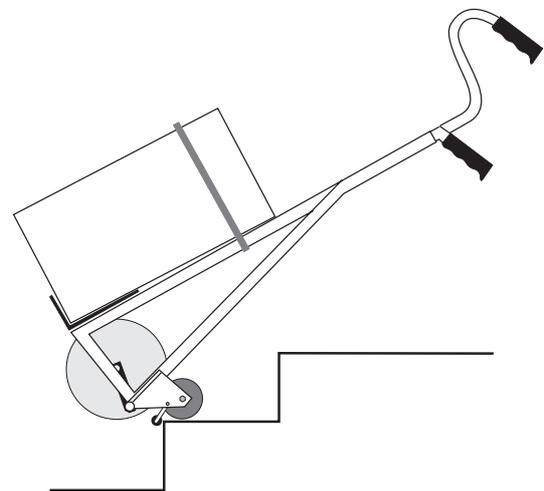

FIGURE 40
5. As soon as the small supporting wheels also touch down on the step, push the device forward until it reaches the edge of the step (see Figure 40); from now on the downward movement repeats itself. Please go back to point 2.